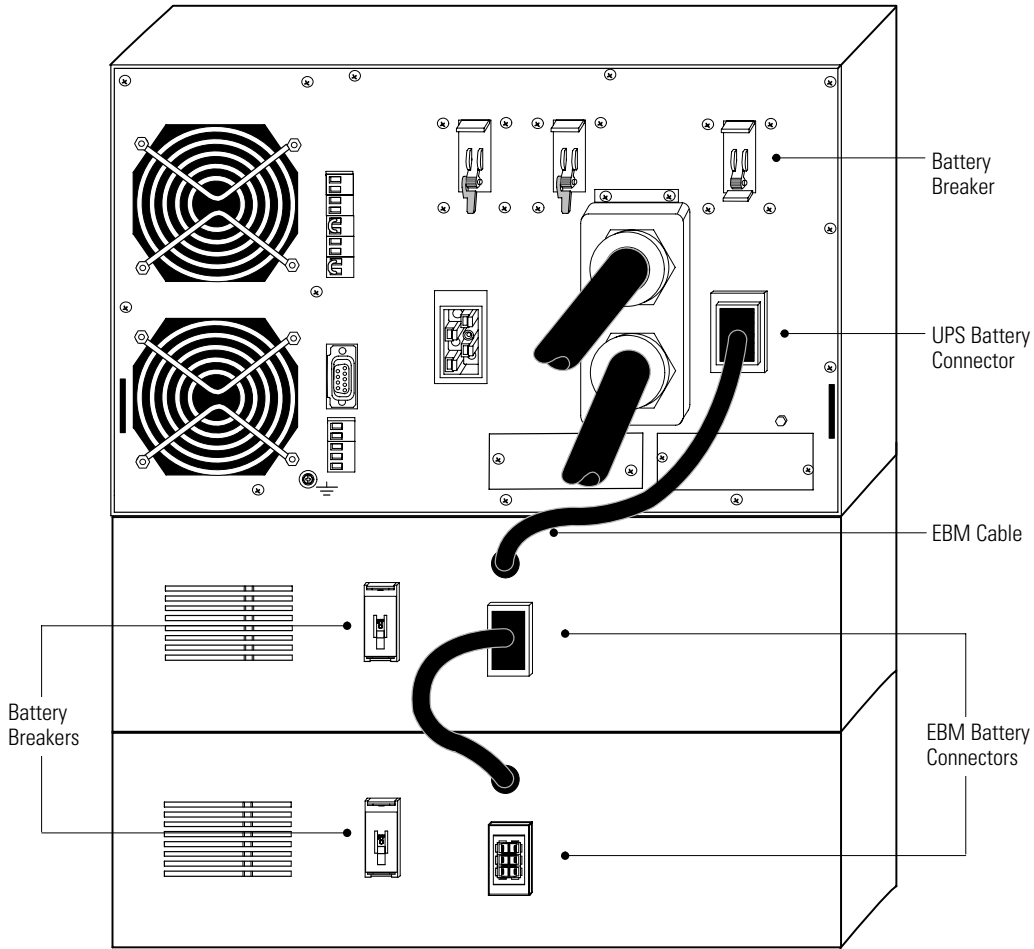

Figure 9. Typical EBM Installation
1. Verify that all battery circuit breakers are in the OFF (O) position (see Figure 9).
2. Plug the EBM cable(s) into the battery connector(s) as shown in Figure 9. Up to four EBMs may be connected to the UPS.
1. Switch all battery circuit breakers to the OFF (O) position (see Figure 9 on page 22).
5. Plug the EBM cable(s) into the battery connector(s) as shown in Figure 9 on page 22.
7. Switch all battery circuit breakers to the ON (I) position.